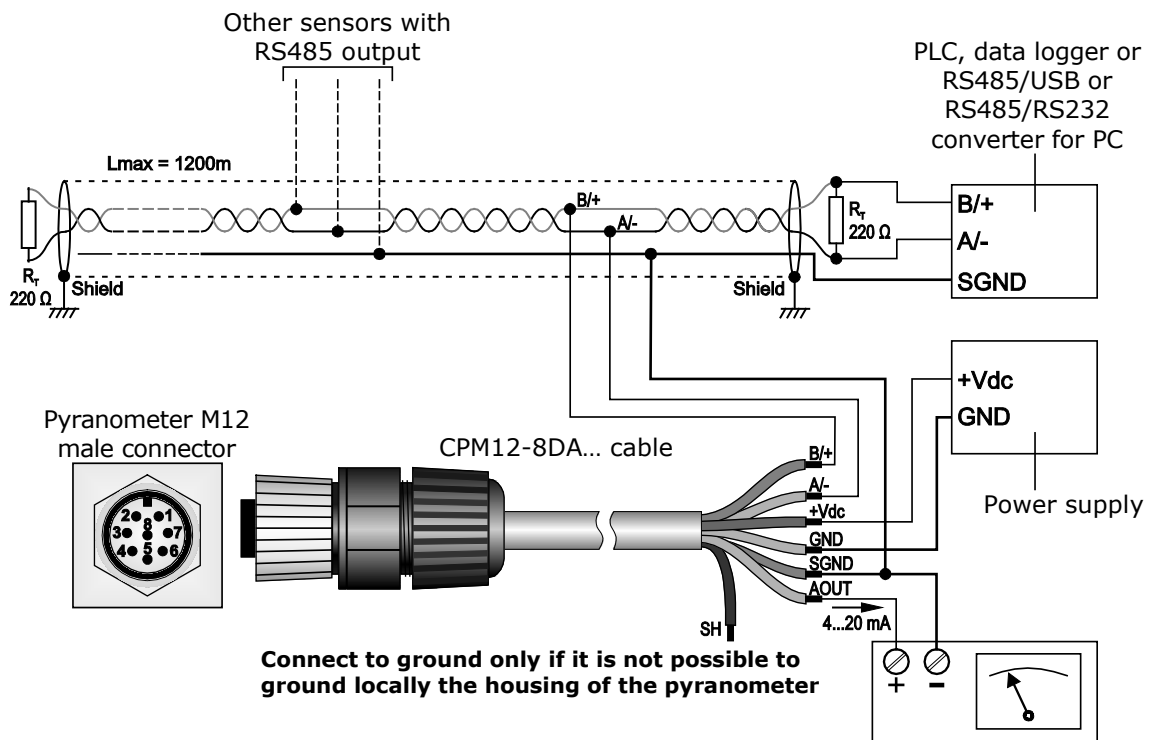

Fig. 4.6: LPPYRA03ACS[4] connections
- One **4...20 mA** output, requiring **10...30 Vdc** external power supply. It is to be connected to a power supply and an instrument with 4...20 mA input as shown in fig. 4.6. The load resistance of the instrument reading the signal must be $\leq 500 \Omega$.
- One **RS485 Modbus-RTU** output, requiring **5...30 Vdc** external power supply. It is to be connected to a power supply and to a PLC, a data logger or a RS485/USB or RS485/RS232 converter for PC as shown in fig. 4.6. The RS485 output is not isolated.